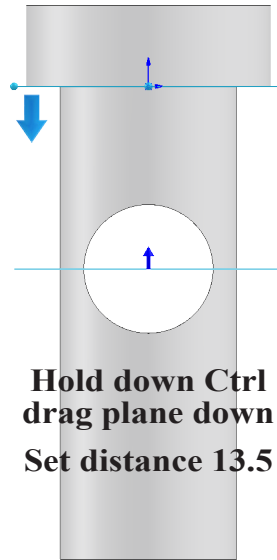

Fig. 16
Step 2. In graphics area **Ctrl drag Top plane down** and release, **Fig. 16**.
The new plane should be centered on hole, **Fig. 16**.